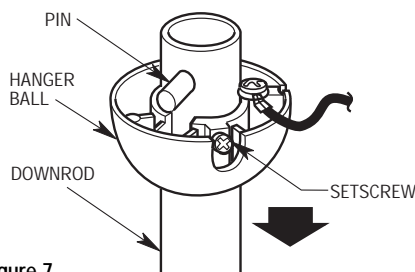

Figure 7
- 11. Remove the hanger ball by loosening the setscrew in the hanger ball until the ball falls freely down the downrod (Figure 7). Remove the pin from the downrod, then remove the hanger ball. Retain the pin and hanger ball for reinstallation in step 16.